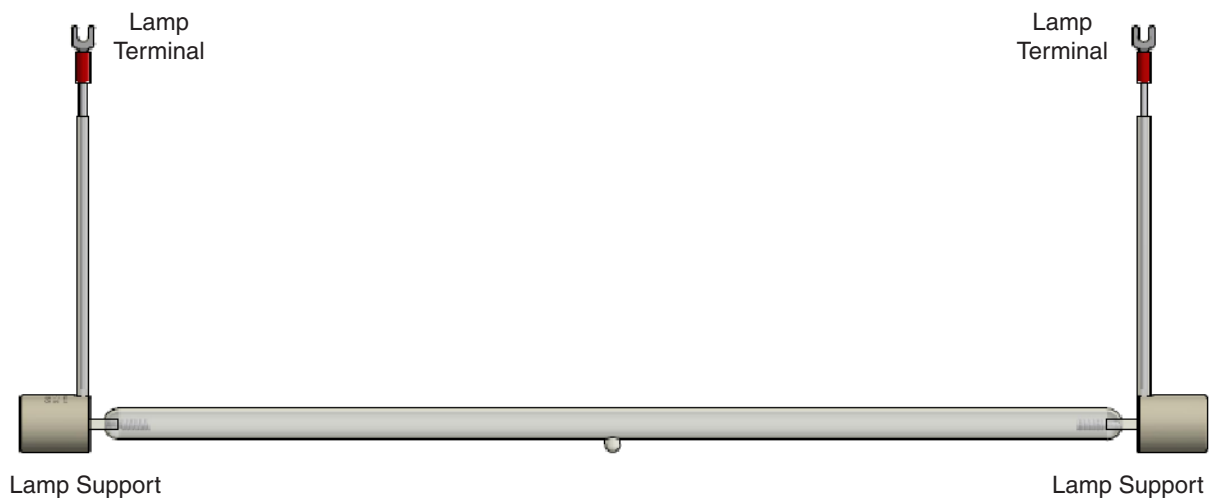

Figure 7.1a: Q-SUN xenon lamp.
- Figure 7.1a shows a diagram of the xenon lamp. See Section 16.1 and Section 18 for lamp replacement information.